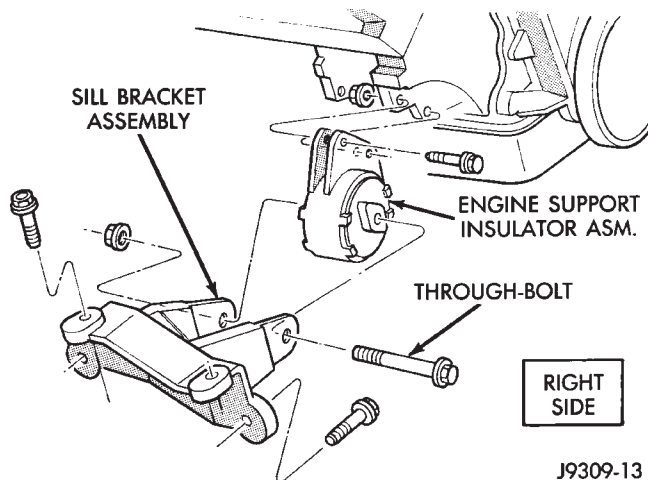
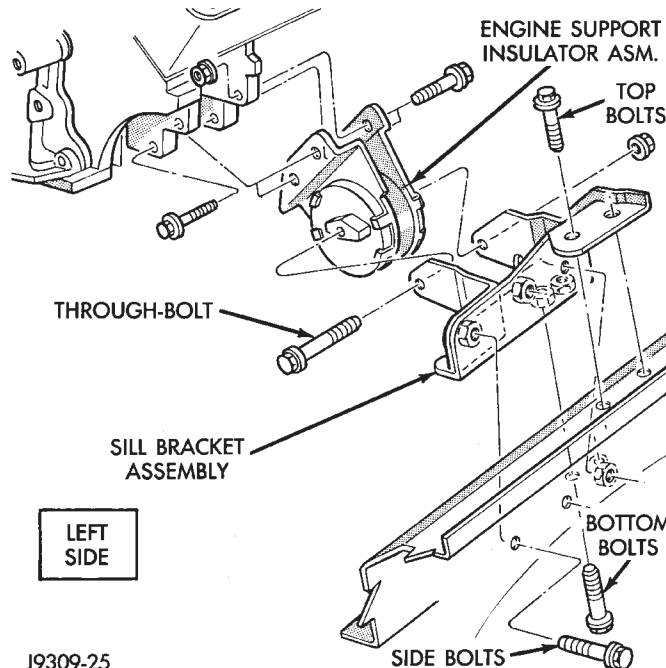

Fig. 14 Front Engine Mount—Right Side
Fig. 15 Front Engine Mount—Left Side
- (3) Install engine lifting fixture.
- (4) Raise vehicle on hoist.
- (5) Remove the engine support insulator thru-bolts and nuts (Fig. 14) (Fig. 15).
- (6) Raise engine SLIGHTLY. Remove the engine support insulator bolts. Remove the engine support insulator assembly.
(a) **RIGHT SIDE**—Install the sill bracket assembly onto the sill assembly (Fig. 14). Install and tighten the bolts to 65 N·m (48 ft. lbs.) torque.
(b) **LEFT SIDE**—Install the sill bracket assembly onto the sill assembly (Fig. 15). Install and tighten the 2 top bolts to 65 N·m (48 ft. lbs.) torque. Install and tighten the 2 side bolts to 95 N·m (70 ft. lbs.) torque. Install and tighten the 2 bottom bolts to 121 N·m (89 ft. lbs.) torque.
(2) With the engine raised **SLIGHTLY**, position engine support insulator assembly onto the engine block (Fig. 14) (Fig. 15). Install bolts and tighten to 88 N·m (65 ft. lbs.) torque.
(3) Lower engine with lifting fixture while aligning engine support insulator assembly into sill bracket assembly.
(4) Install the thru-bolt and nut. Tighten the **RIGHT SIDE** nut to 81 N·m (60 ft. lbs.) torque. Tighten the **LEFT SIDE** nut to 81 N·m (60 ft. lbs.) torque.
(5) Lower the vehicle.
(6) Remove lifting fixture.
(7) Connect the negative cable to the battery.